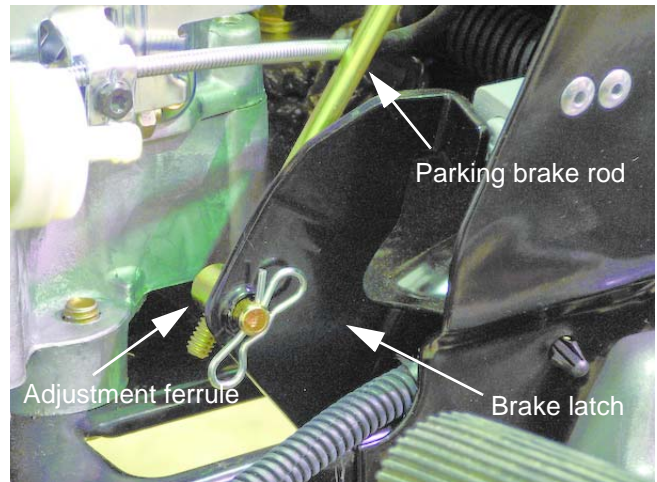

Figure 5.10
1. Check for a bent parking brake rod where it passes down through the dash. See Figure 5.10.